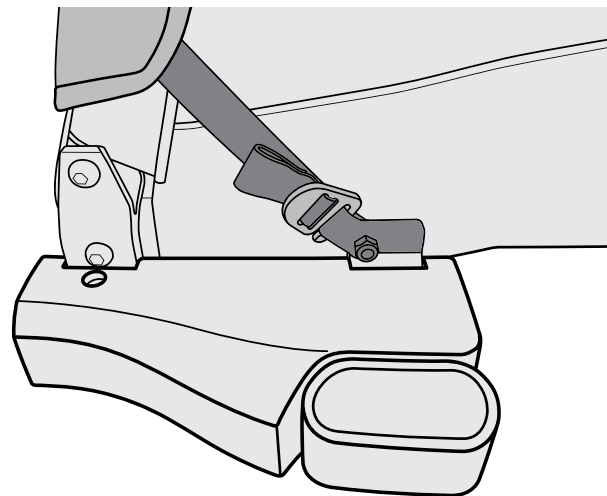

Figure 21
1. Insert hook into loop and pull up on webbing to tighten the fit (Figure 21).